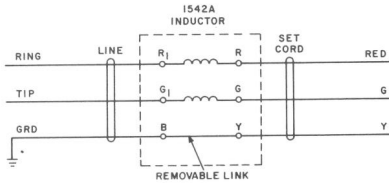

FIGURE 4. 1542A Inductor Schematic
- 5.02 A CAC1542A *inductor* can be effectively used as a radio frequency suppression coil. The *inductor* should be installed as close as possible to the telephone set. The mounting block is designed to be mounted on a wall in place of the usual telephone connecting block. Inductor mounting block installation procedures are similar to connecting block installation procedures (see Figures 4 and 5). If the inductor is used with an instrument that does not require a connecting block, the inductor should be connected across the line as close as possible to the subset of the instrument.